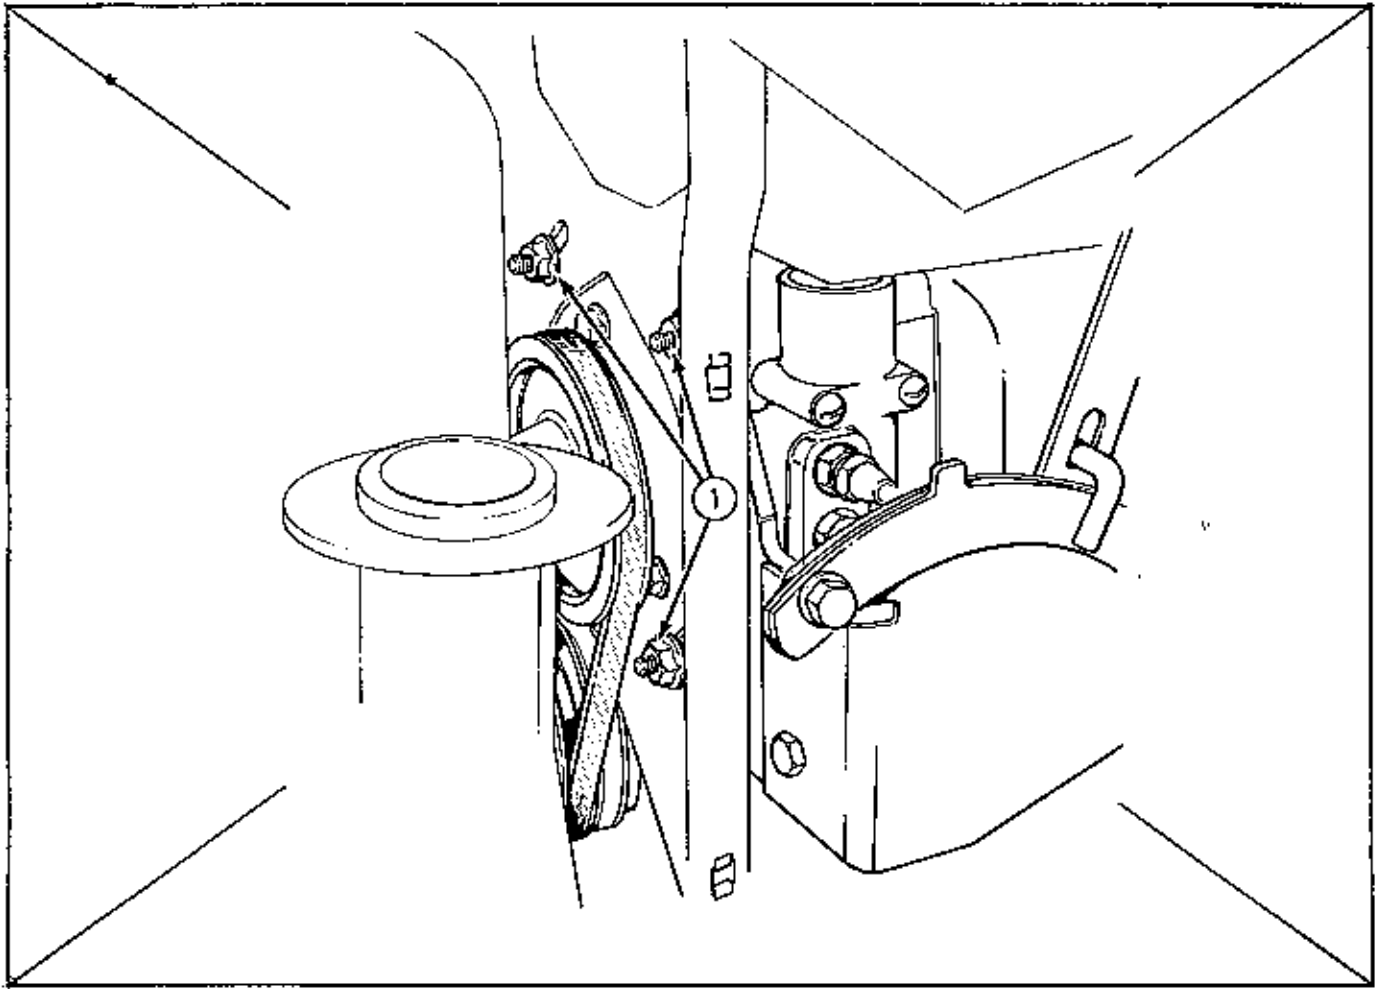

FIGURE 6
- H. Attach the pump and tank assembly to the front panel of the tank support assembly by means of the three Whiz-Lock nuts provided (1, Fig. 6):